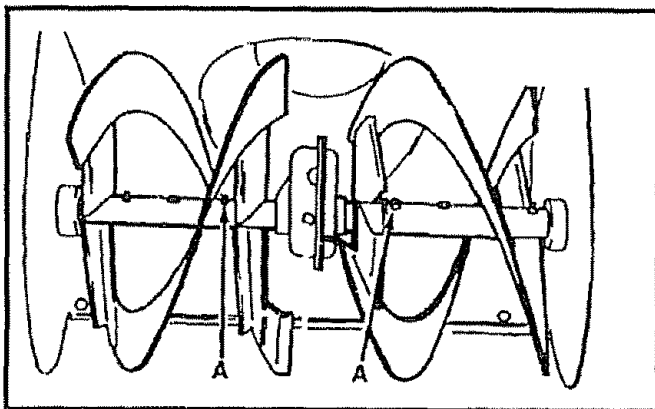

FIG. 19
- Auger Shaft - Using a hand grease gun, lubricate the auger shaft zerk fittings (See A, Fig. 19) every ten (10) operating hours. Each time a shear bolt is replaced (see To Replace the Auger Shear Bolt (on page 24), the auger shaft MUST be greased.
**NOTE:** For storage, the hex shaft and gears should be wiped with 10W-30 motor oil to prevent rusting (See Fig. 19).